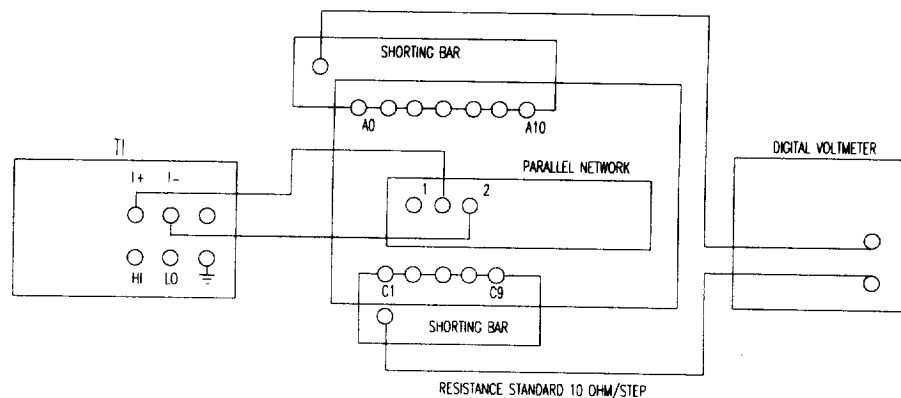

Figure 8.
4.4.40 Connect the equipment as shown in Figure 8.